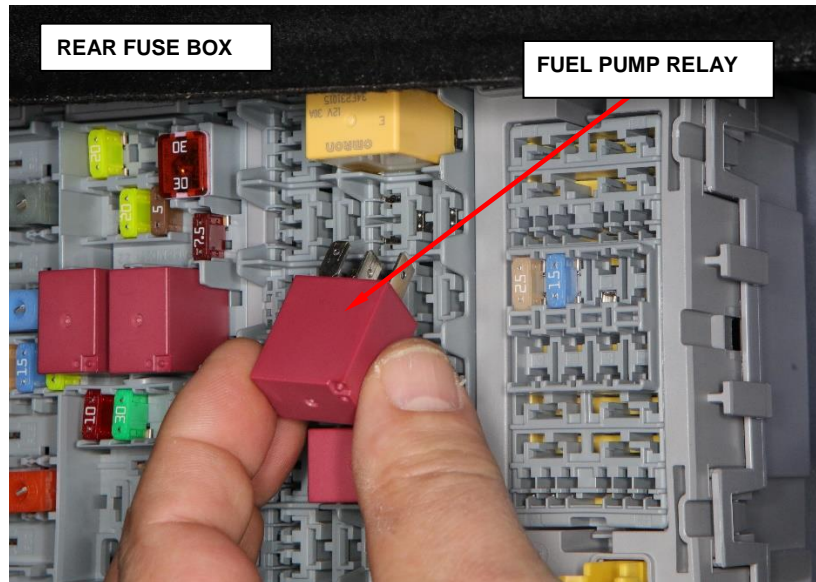

Figure 3 – Fuel Pump Relay
5. Locate the T-10 fuel pump relay and remove it and set aside (Figure 3).